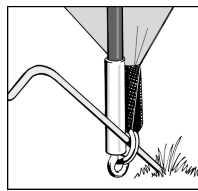

Figure 2.
- Peg down poles through metal rings (see fig. 2) and remaining flysheet pegging points using the pin-pegs.
2. Peg the corners of the tent through the metal rings using pin-pegs. It is important to drive the peg into the ground at a 45 degree angle to obtain the best grip. **(See Figure 2)**.